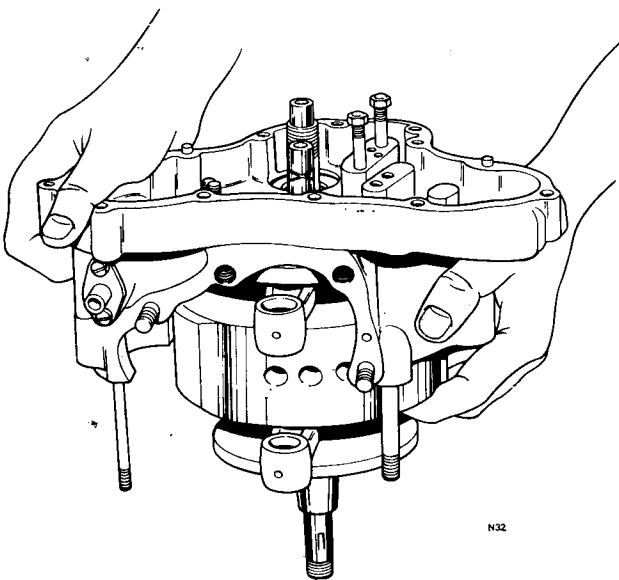

Fig. C35 Pushing timing side crankcase over crankshaft
- 1 Push the timing side crankcase over the crankshaft, which must be supported upright on the bench. See *Fig. C35*. At this time check that the connecting rods clear the crankcase mouth of the crankshaft end of the bearing. If the bearing is too tight to push home over the crank, place a scrap main bearing inner race and a large washer over the crankshaft, outboard of the timing side crankcase then, using the oil pump driving worm on the crankshaft, pull it home through the bearing.
- 6 Offer the drive side crankcase to the timing side after oiling the camshaft bearing area and the drive side roller main bearing. The operation of mating the crankcases is shown in *Fig. C35*. It will be noted that the camshaft is held in position against the breather disc and spring with one finger during this operation before 200000. Ensure that washer tabs are seated throughout this operation until cases are mated. It is most important that the drive side connecting rod does not come into contact with the crankcase mouth and at the final stage of mating the crankcases, it may well be necessary to turn the tachometer drive to locate into the camshaft worm drive.